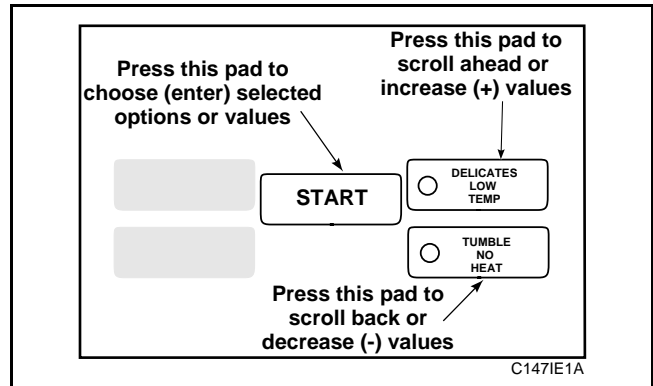

Figure 63
5. Press the LOW TEMP (+) pad **or** the NO HEAT (-) pad to increase or decrease the current number of coins displayed in the VFD to the desired number of coins, *Figure 63*.